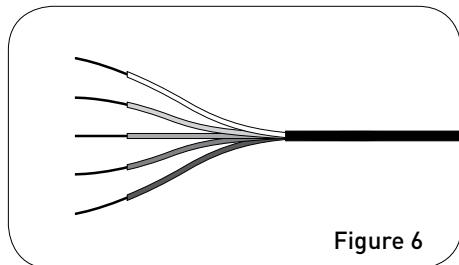

Figure 6
4. Remove 7/8"-1" of insulation from each individual wire (Figure 6)